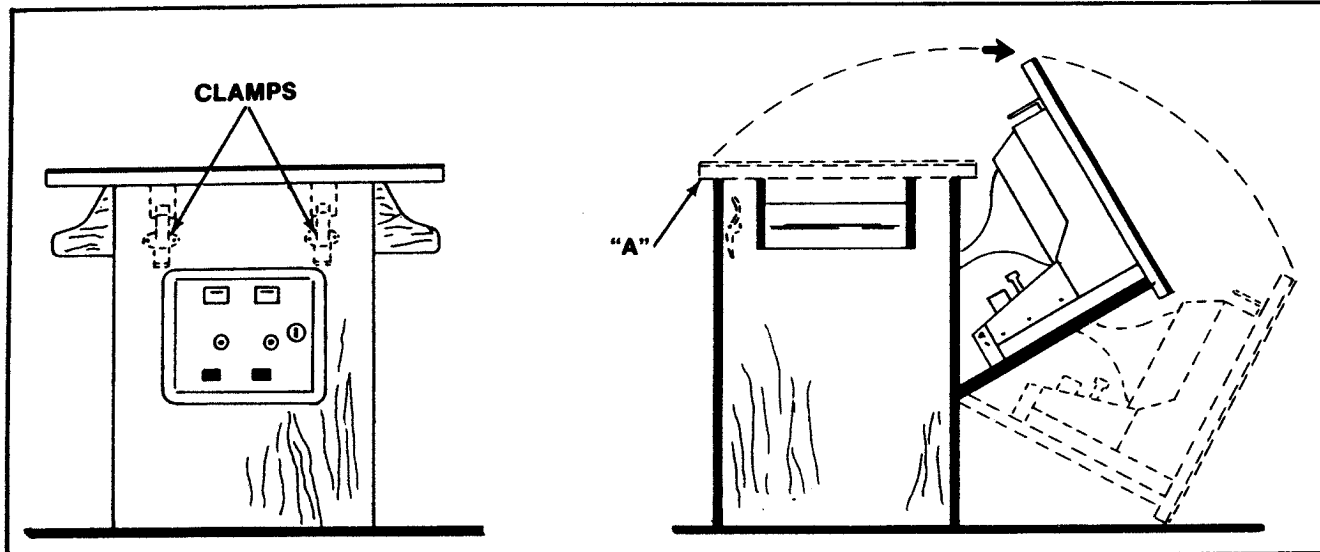

Figure 4-11 Opening the Cocktail Game
- ☐ Open the coin box door and release the two latches indicated in Figure 4-11.
- ☐ Grasp the table top at "A" and open it as indicated in Figure 4-11.
Open the coin box door and release the two latches indicated in Figure 4-11.